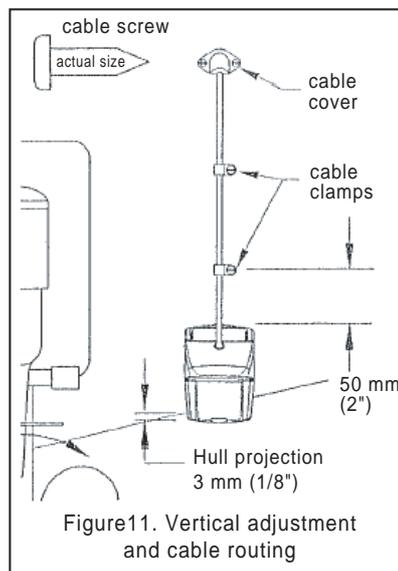

Figure11. Vertical adjustment and cable routing
2. Check that the bottom left corner of the sensor projections 3 mm (1/8") below the bottom of the hull (see Figure11).
1. If a hole must be drilled through the transom, choose a location **well above the waterline** (see Figure11). Check for obstructions such as trim tabs, pumps, or wiring inside the hull. Mark the location with a pencil. Drill a hole using the appropriate size bit to accommodate the connector.